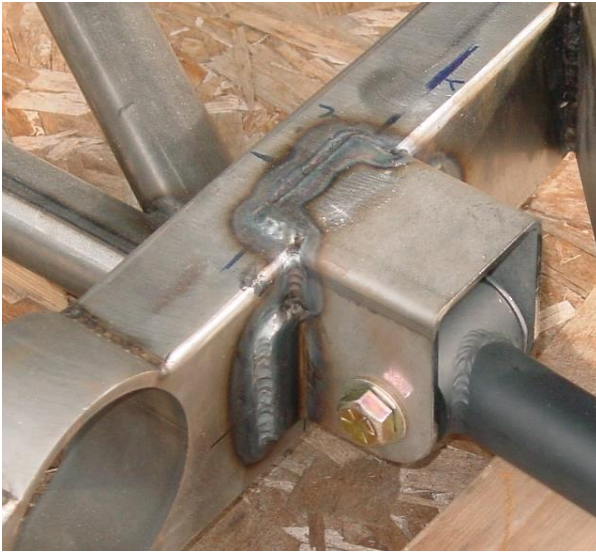
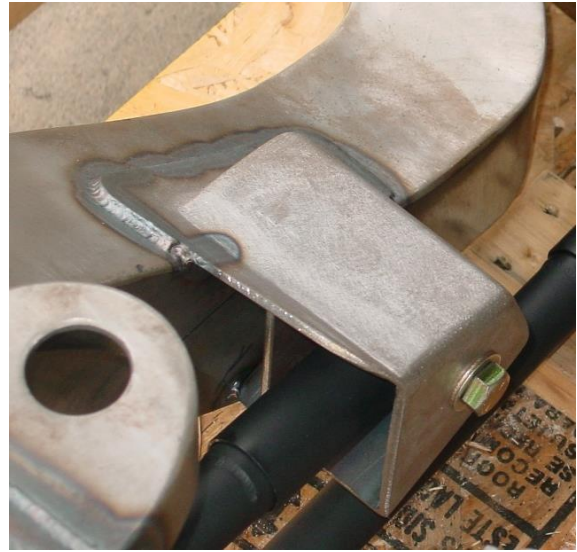

Figure 7 – Lower Link Chassis Bracket
Figure 8 – Upper Link Chassis Bracket
3. Locate the upper and lower link chassis brackets onto your frame. The lower link brackets will need to be welded to a crossmember (Figure 7 on the next page). The upper link brackets will need to be welded to the top side and inside of the frame rail (Figure 8 on the next page). Trim brackets as needed to fit tight against your frame rails. Tack weld in place.